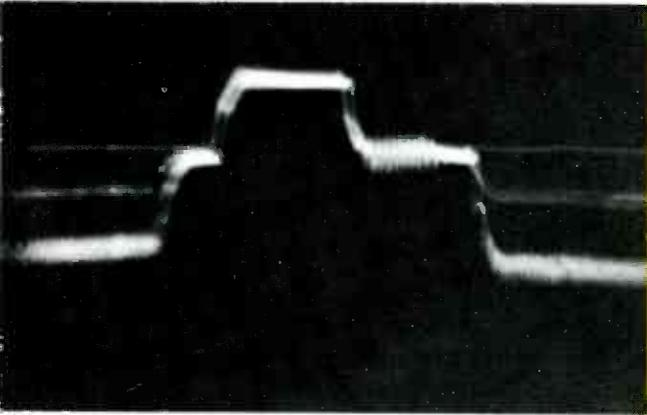

Fig. 5 Normal horizontal sync pulse with color burst on "back porch".
4. Improper bandpass. If the tuned circuits of the RF tuner, IF, and chroma-bandpass are misaligned, symptoms such as streaking, smearing, ringing, or edge-effect (trailing reversal) are likely. During color reception, the hue or saturation may be incorrect. Careful observation of the horizontal sync pulses at the second detector will often help in diagnosing poor alignment. Fig. 5 shows a normal sync pulse with color burst on the back porch. A wide-band scope with a low-capacitance probe must be used to obtain this waveform. Tilt, overshoot, undershoot, or a tendency toward oscillation at the leading edge of the pulse are all indications of poor alignment.